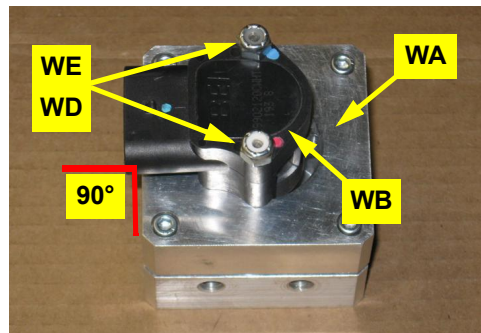

Figure 1a: Prepared WAS housing/connector
- a. Using the provided hardware **WE** (nuts) and **WD** (bolts - not visible), attach the WAS wire connector **WB** to the WAS housing **WA**. Install the bolts up through the bottom of the housing. The WAS wire connector **WB** can be mounted 90° to any of the WAS housing **WA** sides (Figure 1a).
- a. Remove the four screws holding the two halves of the steering column lower trim to expose the steering shaft cover (Figure 1a with inset).
Figure 1a with inset: Lower trim removed, steering shaft cover exposed (inset)